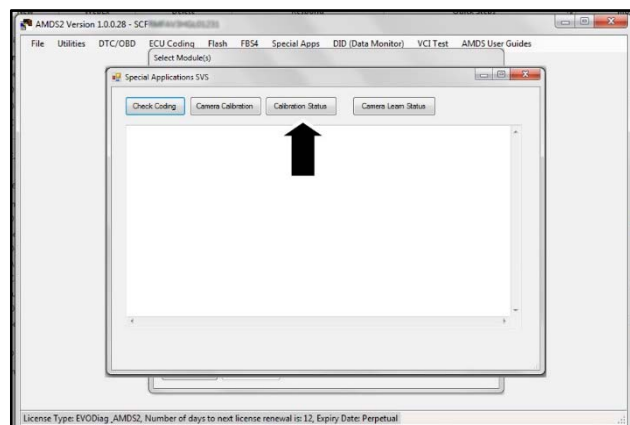

Figure 6
8. Select "Calibration Status" to monitor the calibration status (refer to Figure 6).